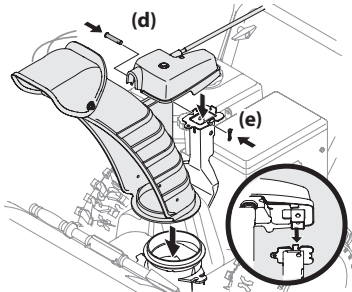

Figure 2-41
3. Place chute onto chute base and ensure chute control rod is positioned under handle panel. Secure chute control head to chute support bracket with clevis pin (d) and bow-tie cotter pin (e) removed in Step 1. See Figure 2-41.